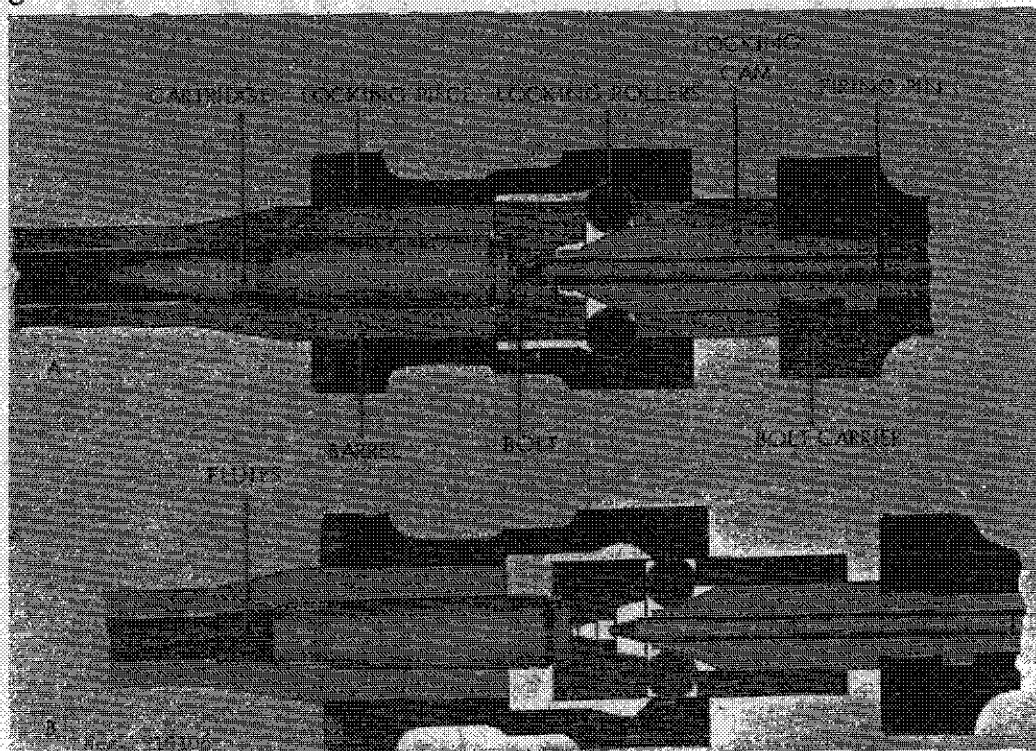

Figure 107. G3 bolt functioning.
a. The G3 rifle is delayed blowback operated; the rearward thrust of the cartridge case, upon firing, drives the bolt mechanism rearward, but the rearward movement is delayed by the mechanical arrangement of the bolt until the pressure in the rifle has dropped to a safe limit. There is, however, a slight rearward movement of the fired cartridge case. In order to ease this movement and prevent ruptured cartridge cases, the front end of the chamber is fluted. These flutes (fig 107) allow propellant gases to leak rearward along the cartridge case; this provides a film of gas upon which the mouth of the cartridge floats. Fired cartridge cases from this rifle are readily identified by the sharply defined gas marks that extend back for about half the length of the case.
b. When the G3 is ready to fire, a cartridge is chambered, the locking cam forces the locking rollers into their recesses, and the hammer is cocked. When the trigger is pressed, the hammer is released and strikes the firing pin, which fires the cartridge. The gas pressure generated drives the cartridge case rearward, and this movement is resisted by the bolt head whose locking rollers are seated in the locking piece (fig 107) attached to the barrel.
c. The rearward thrust of the case is sufficient to start the bolt rearward; this causes the rollers to be forced out of their seats. As they move, the rollers ride on the cam surface of the locking cam (fig 107) and force it rearward; because the cam is locked to the heavy bolt carrier, the bolt carrier is also forced to the rear against the driving spring. The delay, occasioned by the rollers resisting camming the heavy bolt carrier rearward, allows time for the bullet to leave the muzzle and the pressure to drop to a safe level. The inertia developed and residual gas pressure still thrusting the bolt rearward provide sufficient energy to drive the bolt fully rearward, to compress the driving spring, and to cock the hammer.
the receiver. The carrier continues forward, and the locking cam, which travels with the carrier, forces the locking rollers into their recesses (fig 107).